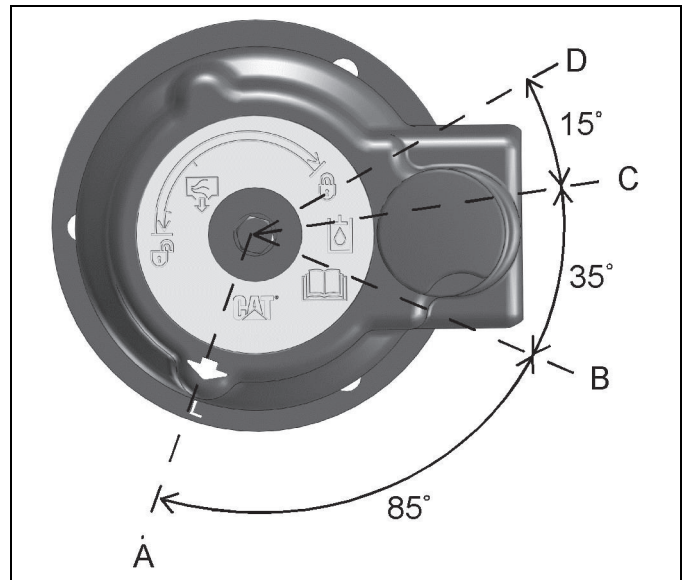

Figure 10-161: Filler Cap
- (A) LOCK position
- (B) PRESSURE RELEASE - START position
- (C) PRESSURE RELEASE - END position
- (D) OPEN position
5. Release the pressure that may be present in the return hydraulic circuit with the following procedure. Refer to Figure 10-161 for filler cap positions.
- a. Turn the filler cap counterclockwise and move the arrow from position (A) to position (B).
- b. Release the pressure for a minimum of 45 seconds by moving the arrow from position (B) to position (C).
- c. Move the arrow from position (C) to position (D).
8. Clean the filler cap and install on the tank. Tighten the filler cap on the hydraulic tank to position (A).